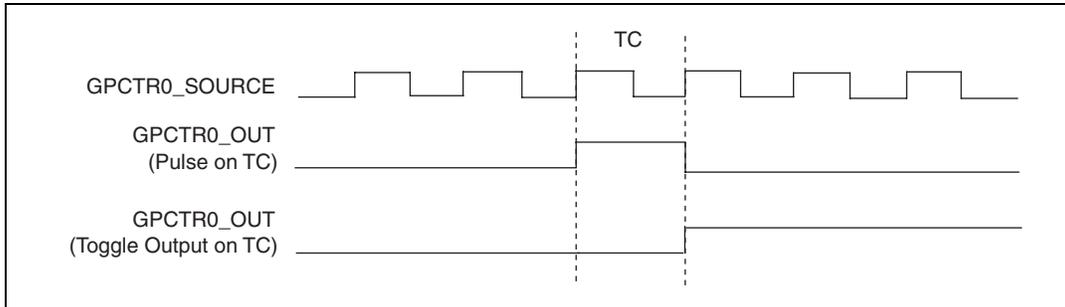

Figure 4-31. GPCTR0_OUT Signal Timing
This signal is available only as an output on the GPCTRO_OUT pin. GPCTRO_OUT reflects the terminal count (TC) of general-purpose counter 0. You have two software-selectable output options—pulse on TC and toggle output polarity on TC. The output polarity is software-selectable for both options. This output is set to high-impedance at startup. Figure 4-31 shows the timing of GPCTRO_OUT.